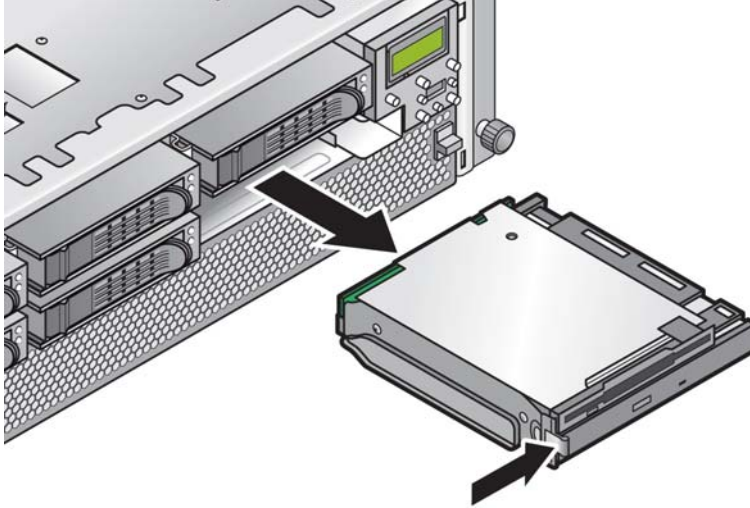

FIGURE 5-12 Removing the DVD/Diskette Drive Assembly
3. Press in the latch on the left front side of the assembly and pull the assembly out of the front of the server (see FIGURE 5-12).